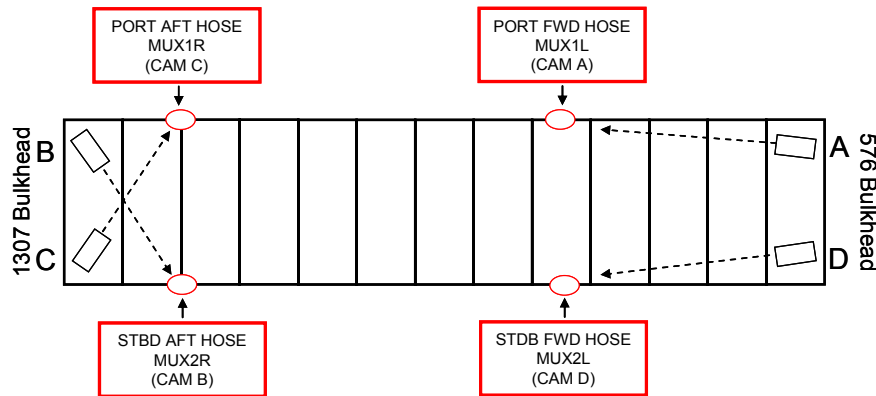

Figure 1-5. RAD hose camera muxing
- 5. ✓ MCC for rad hose camr pointing and composed MUX1(A,C) and MUX2(D,B) camr views (see fig 1-5)